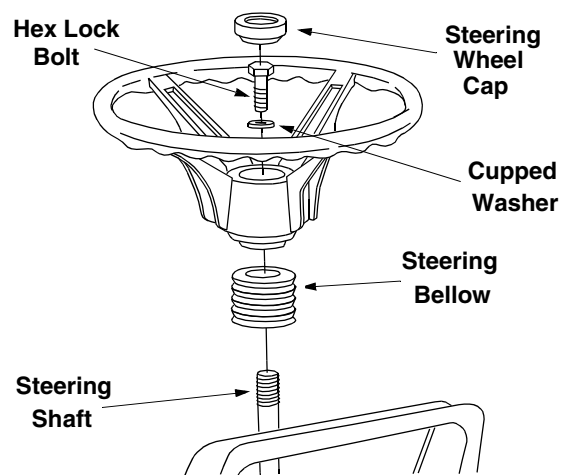

Figure 1
- Remove the steering bellow from the lift lever on the right hand side of tractor. Place steering bellow over the steering shaft extending through the dash. See Figure 1.
- Place the washer with the cupped side down over the steering shaft. Secure with hex lock bolt. See Figure 1.